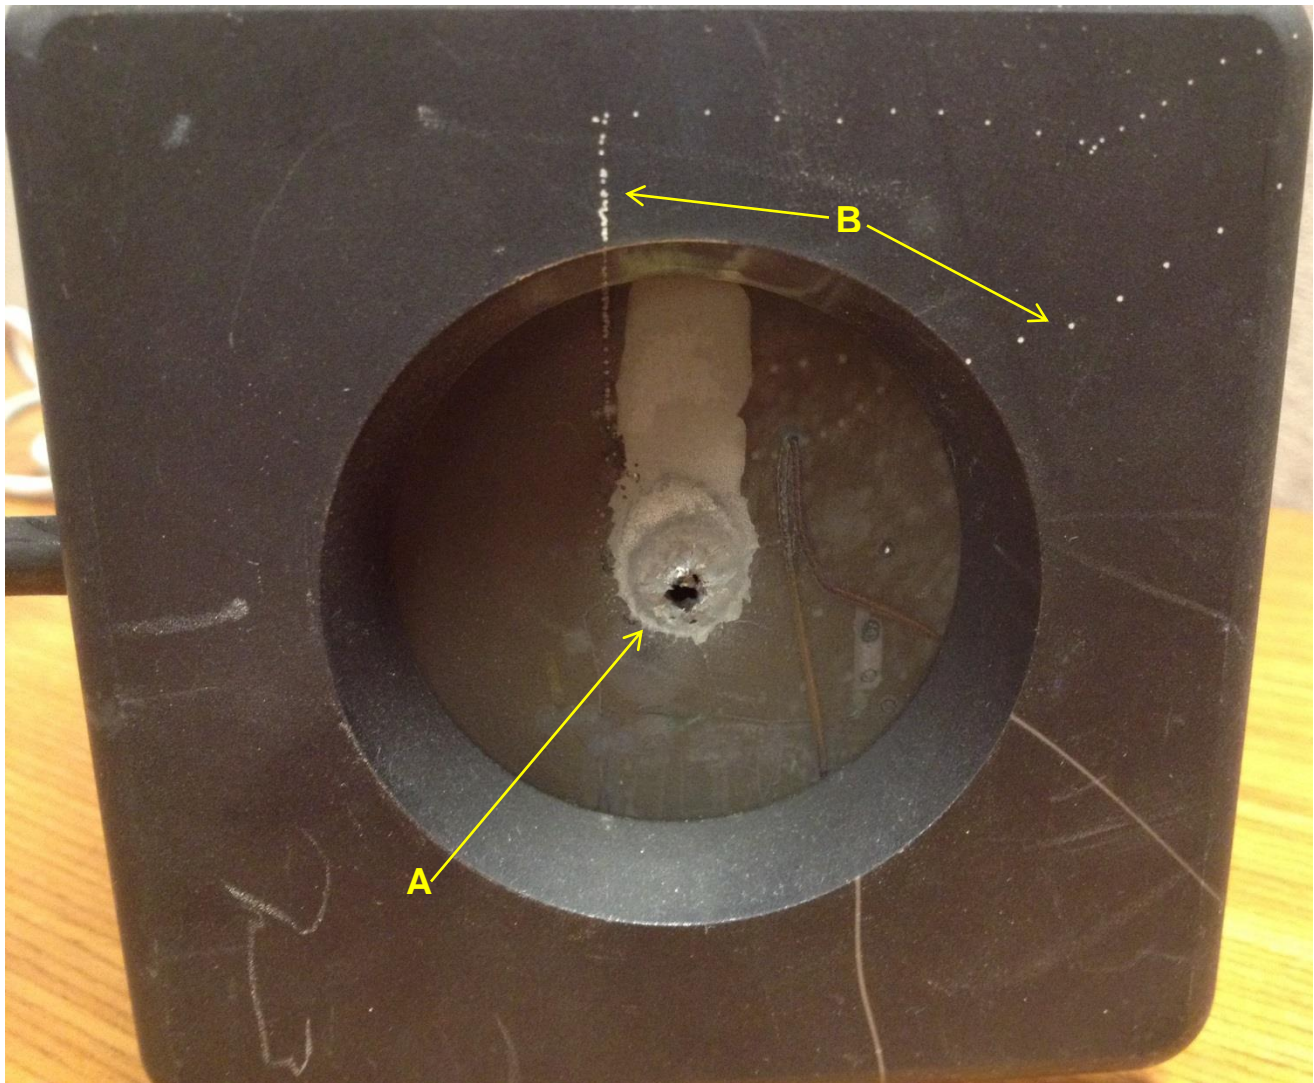

Figure 6: Very Severe Damage Caused by Too High of a Total Power Level and Density
- f. Figure 6: Damaged Caused by Too High Total Power Level and Density
- f. Figure 6: Very Severe Damage Caused by Too High Total Power Level and Density